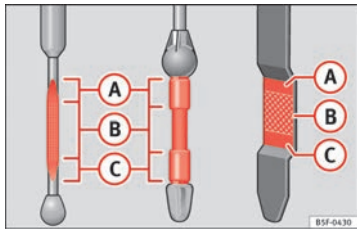

Fig. 137 Engine oil dipstick.
- Then pull it out once more and check the oil level ⇒ Fig. 137. Top up with engine oil if necessary.